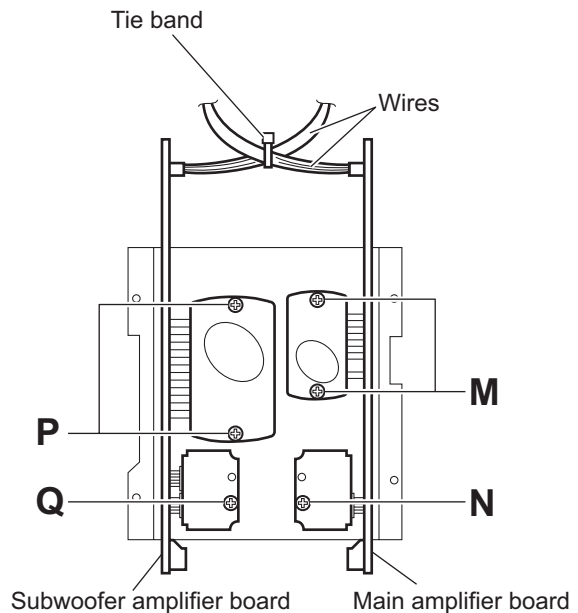

Fig.17
- (3) From the side of the main amplifier/subwoofer amplifier boards, remove the tie band bundling the wires. (See Fig.17.)
After reassembling, bundle the wires with the tie band. (See Fig.17.)
- (4) Remove the two screws **M** and screw **N** attaching the main amplifier board. (See Fig.17.)
- (5) Removing the two screws **P** and screw **Q** attaching the subwoofer amplifier board. (See Fig.17.)